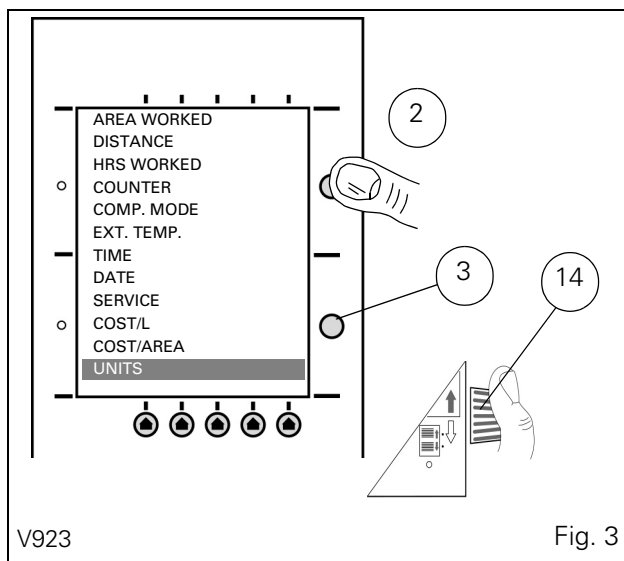

Fig. 3
1. Press the key 2 or 3 to access the available functions (Fig. 3).
3. Press key 2 or 3 again to display the selection on the lower or upper part of the screen: e.g.: